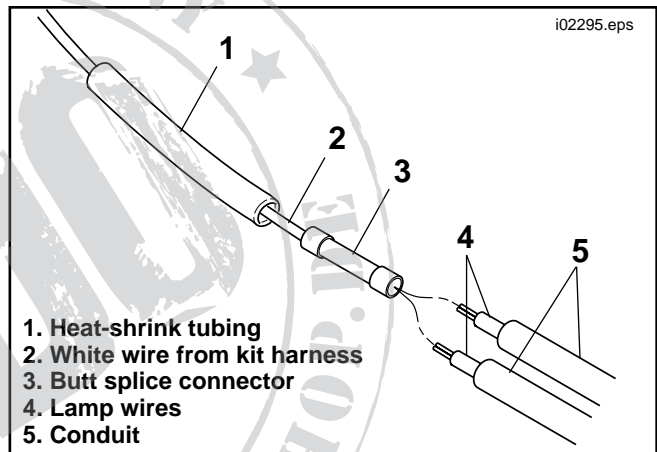

Figure 9. Connect the Lamp Wires to the Kit Harness
20. See Figures 9 and 10, and the SEALED BUTT SPLICE CONNECTORS section of the service manual. Slide the heat-shrink tubing (1) over the white wire (2) from the kit harness, and crimp the electrical connector (3) to the wire with a Crimp Tool (H-D 38125-8).
21. Bring both lamp wires (4) to the connector. Trim the wires, allowing approximately 1 inch (25 mm) of the wire to extend past the butt splice connector. Trim the conduit (5) approximately 1-1/2 in. (38 mm) back from the end of the wire.
23. Insert the ends of both lamp wires (4) into the electrical connector (3) and crimp the wires to the connector with the crimp tool.